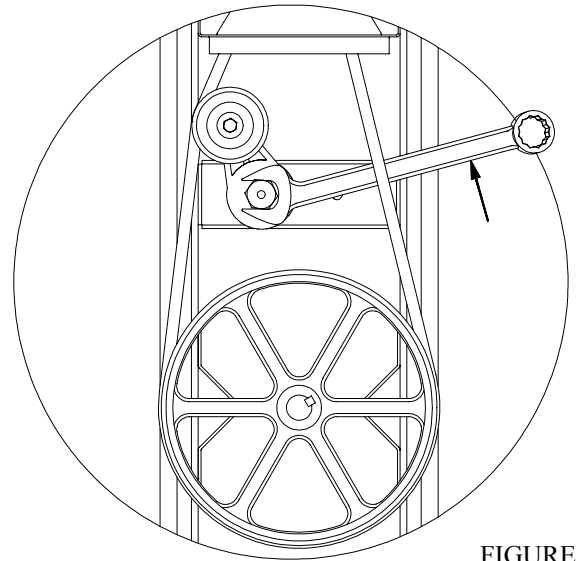

FIGURE 4
19. Place a wrench on the hex nut in the belt tightener body as shown in Figure 4 and a wrench on the mounting fastener.
20. Using the wrench on the belt tightener body, apply pressure in the appropriate direction (see Figure 4) until the belt is properly tensioned.